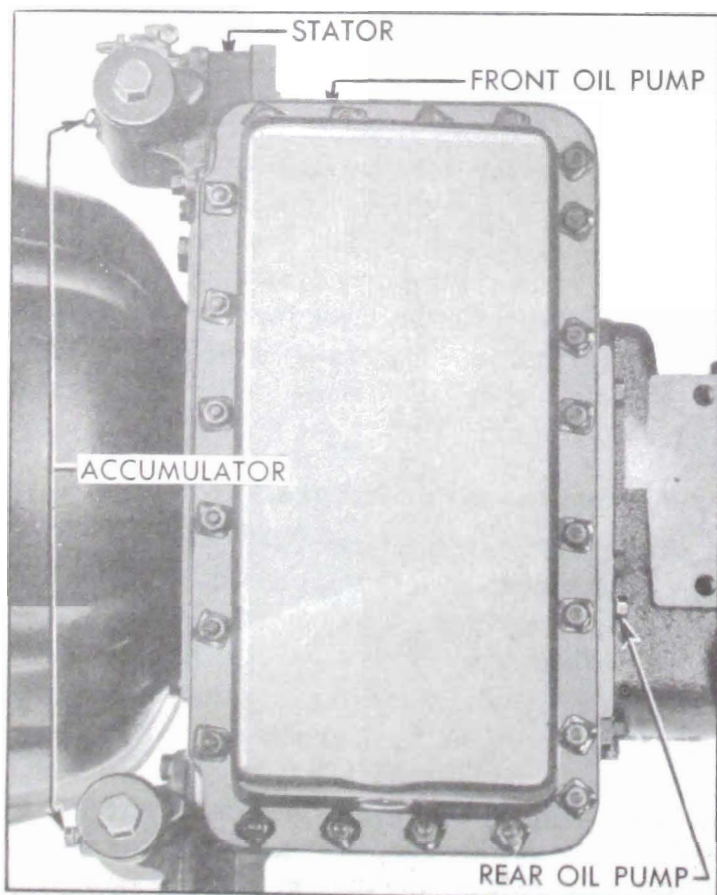

Figure 5-26—Gauge Connections for Oil Pressure Tests
Remove pipe plug at the following points in turn and connect Pressure Gauge J 2575. (1) *Front oil pump*, on left side of transmission case. (2) *Rear oil pump*, in lower flange at front end of rear bearing retainer. (3) *High or low accumulator*, on front upper corner of accumulator body. (4) *Stator*, on left end of reaction shaft flange. See figure 5-26.